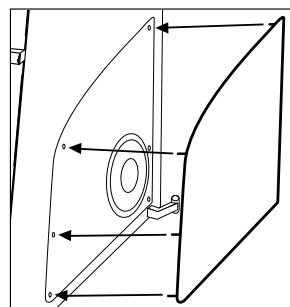

Figure 5.
1. Insert the six grille pins from the appropriate grille into the rubber cups in each woofer's trim panel, as shown with the right side grille in Figure 5.